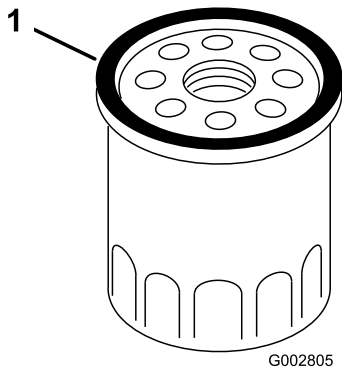

Figure 27
- Use your finger to coat the gasket on the new filter with oil (Figure 27).